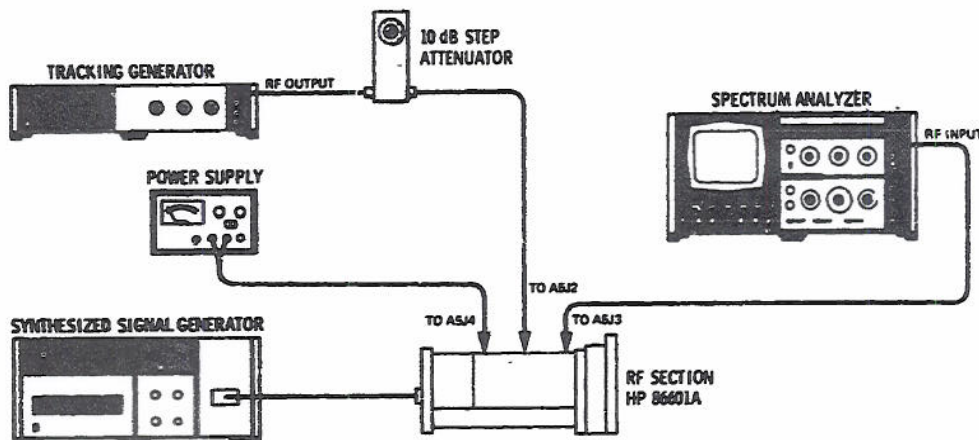

Figure 5-7. Modulator Assembly Adjustment Test Setup.
8. Connect the equipment as shown in Figure 5-7.